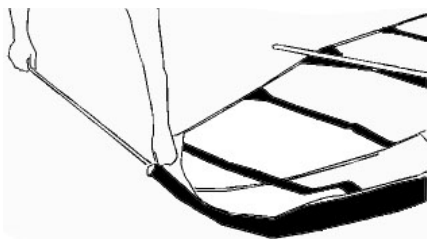

Figure 7. *Push the front tube extension into the front tube extension hole.*
a. Push one of the front tube extensions into the front tube extension hole (Part a4) on the tip of the wing. The rounded side of the extension should face outward. Make sure that the extension goes into the hole at the end of the front tube (See figure 7.). Push the extension as far as it goes.